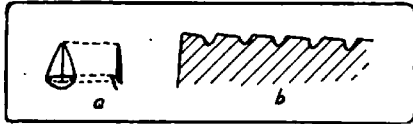

Fig 149.
*Rasps*, Fig. 147, differ from files in that instead of having cutting teeth made by lines, coarse projections are made by making indentations with a triangular point when the iron is soft. The difference between files and rasps is clearly shown in Fig. 149.